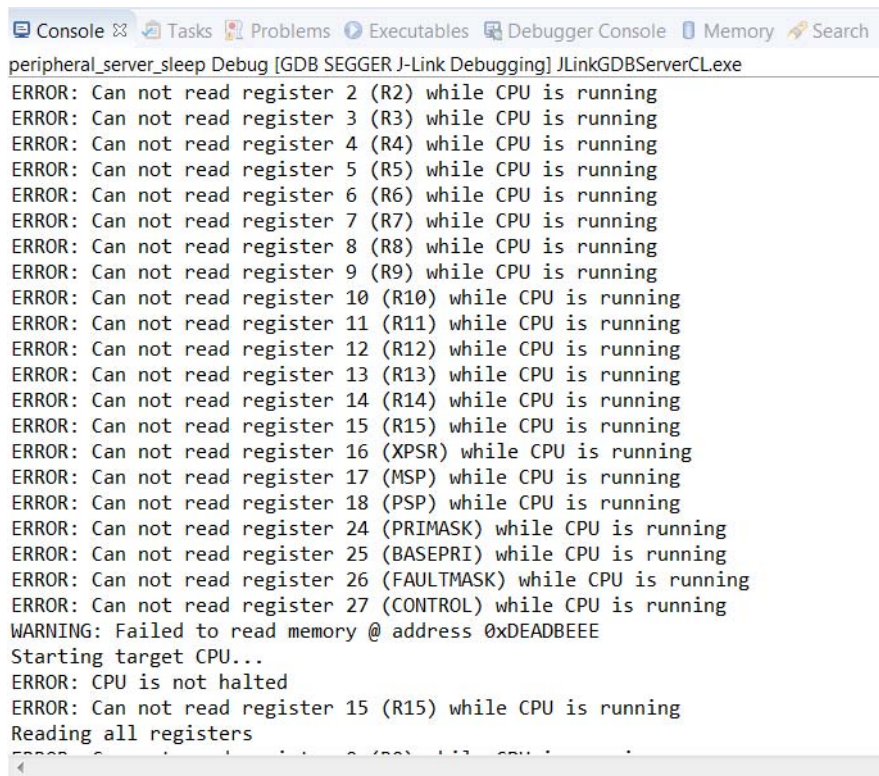

Figure 46. Debug Session Perspective when Debug Connection is Lost
6. Wait until the target enters Deep Sleep Mode. At this point the debug connection is lost; and even when the target is awake, it cannot establish a connection with JTAG. The following output is generated on the console (see Figure 46).